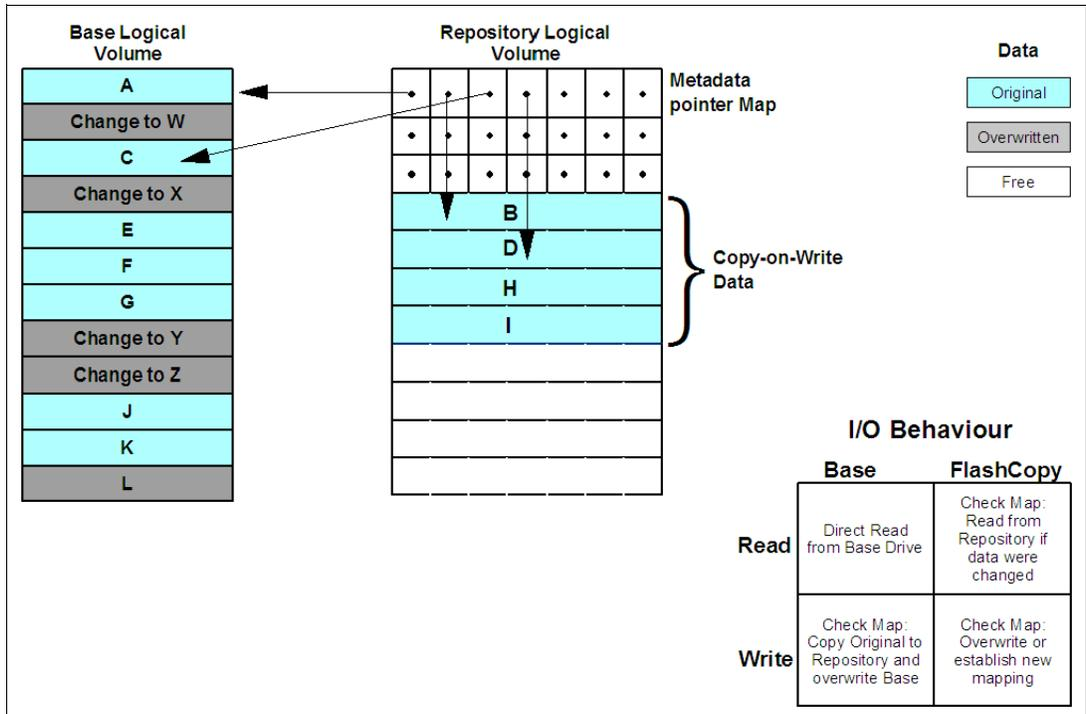

Figure 2-1 FlashCopy read and write schema
When the I/O is stopped, the creation process creates the FlashCopy repository logical drive, where it stores FlashCopy metadata and copy-on-write data (Figure 2-1 on page 15). It builds a metadata database (DB) that contains only pointers. When the controller finishes creating the FlashCopy repository logical drive, production I/O (both read and write) the requests to the base logical drive can resume.